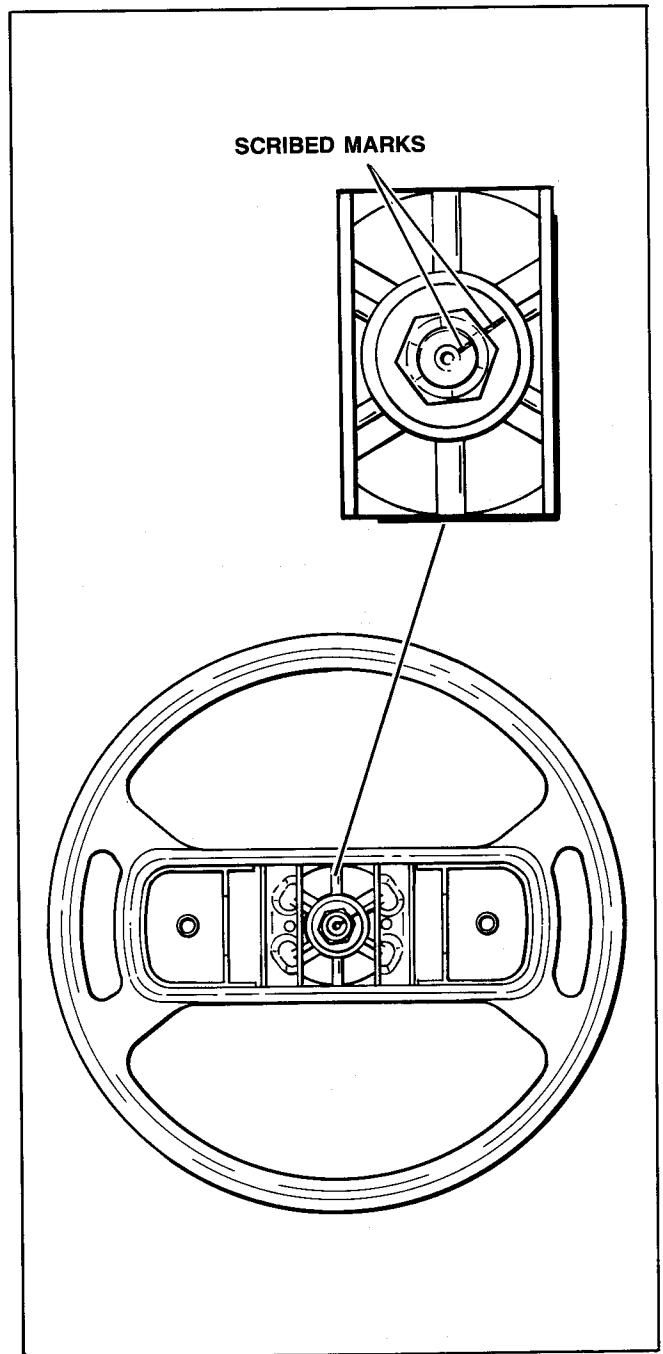

Figure 3-1 – Steering Wheel Removal
- Mark steering wheel and steering shaft so steering wheel can be replaced in the exact position as originally installed. See Figure 3-1.